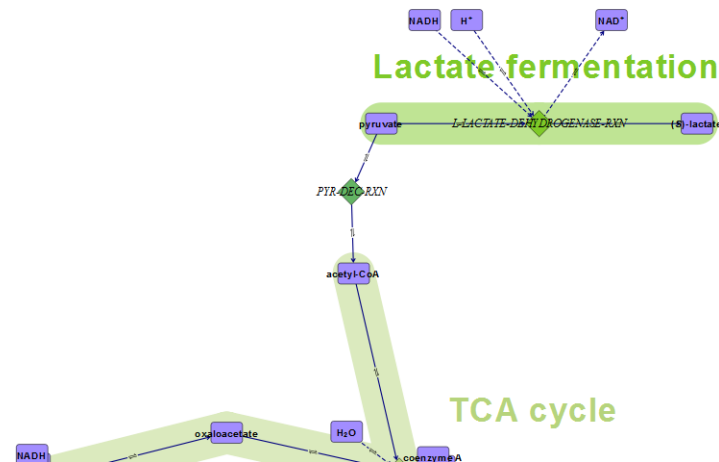

Figure 69 Drawing Area showing the inserted pyruvate decarboxylation reaction
- a Click and drag the *Lactate fermentation* pathway so the pyruvate metabolite is above the acetyl-CoA metabolite (Figure 69 on page 77).
- c Drag the new reaction to a location between the pyruvate to acetyl-CoA metabolites as shown in Figure 69.
Note: The pyruvate decarboxylation reaction joins the lactate fermentation reaction to the TCA cycle. The *Drawing Area* view in Figure 69 illustrates changes made to the lactate fermentation pathway name and movement of the relative positions of the metabolites and reactions to improve the pathway clarity.